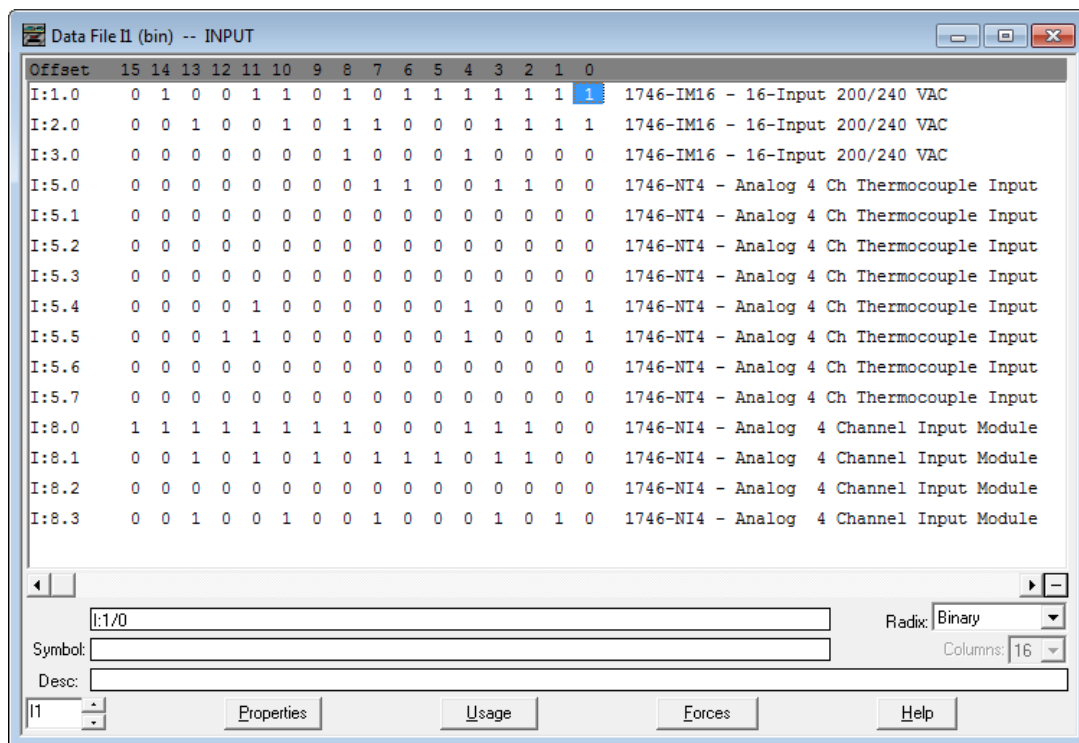

Figure 3.
- The item highlighted in Figure 3 is displayed as I:1.0/0 in RSLogix 500.